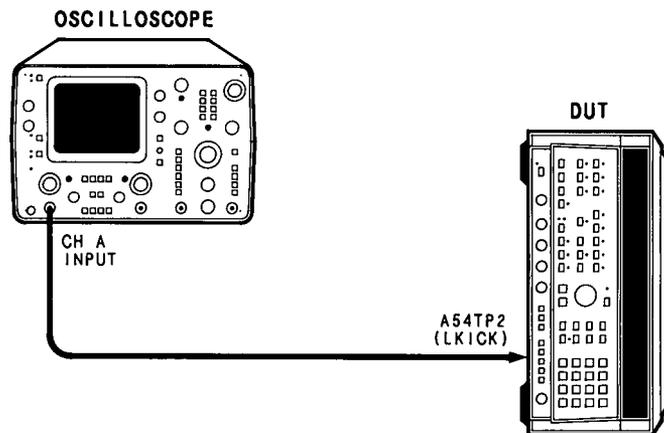

Figure 5-28. YO Kick Pulse Test Setup
1. Position the DUT in the Test Position as shown in Figure 5-28 with bottom cover removed. Turn the LINE switch on. Connect equipment as shown in Figure 5-28 and allow one-half hour warm-up time.